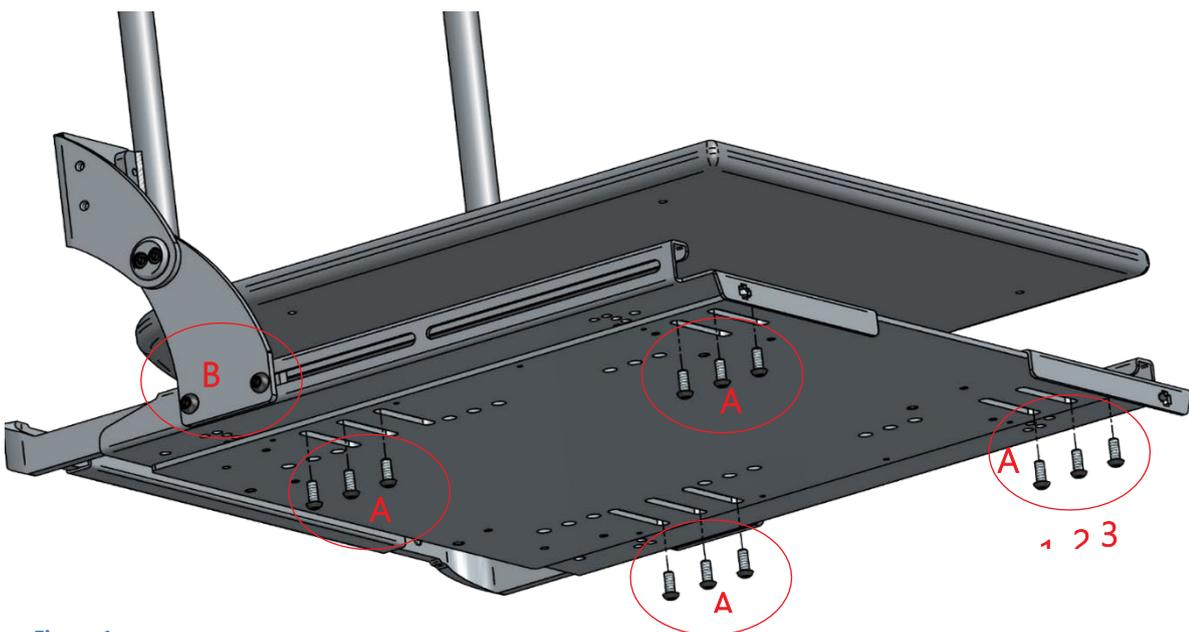

Figure 1
1. Remove the 4 bolts holding the adjustable seat (Fig. 1 - Pos. A).
3. Replace the 4 bolts (Fig. 1 - Pos. A).
1. Loosen the 2 bolts on either side of the seat (Fig. 1 - Pos. B).
3. Tighten the 2 bolts (Fig. 1 - Pos. B).